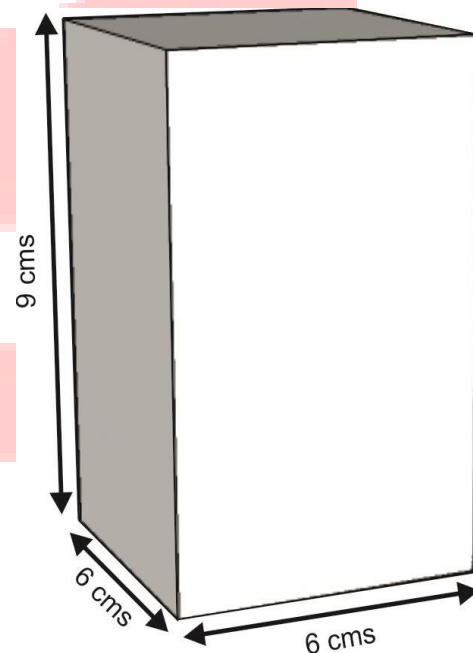

Figure 7: Garbage
- Team prepares garbage - 4 blocks of size 6cm x 6cm x 9cm with the thermocol sheets as shown in Figure 7.